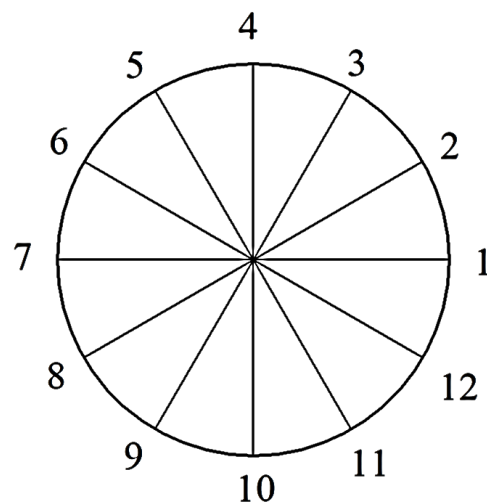

Fig. 1.45 Circle Divisions
2. Select center point and diameter as 50 mm or radius as 60 mm to get the required circle (Fig. 1.45).
11. Select dimension command  select the required line and geometry to dimension the figure as in Fig. 1.45.